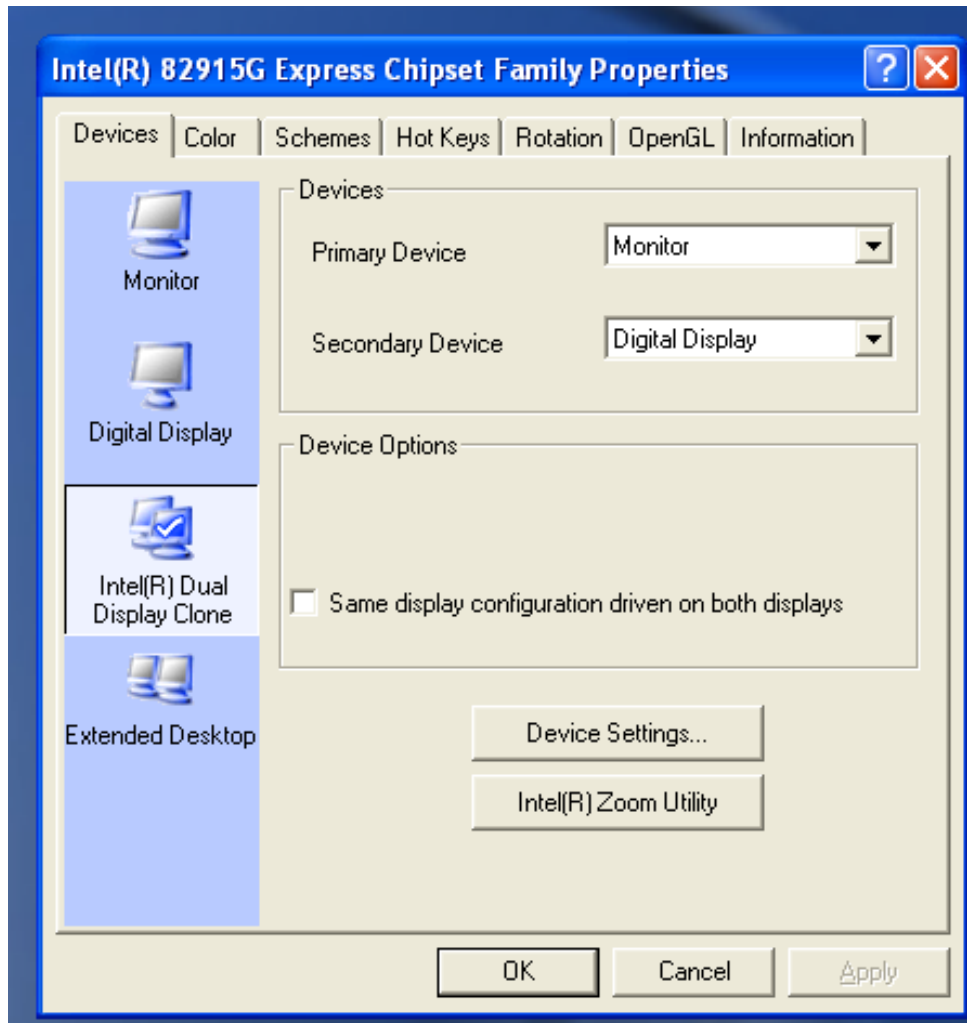

Figure 6. Enabling Digital Display via Keyboard
c. To see the dialog box shown in Figure 6, simultaneously press “SHIFT+CTRL+F12” and release. On the left column, icons list the available options for display. Select either Digital Display for single display only or Intel® Dual Display Clone for simultaneous Analog and Digital Display.